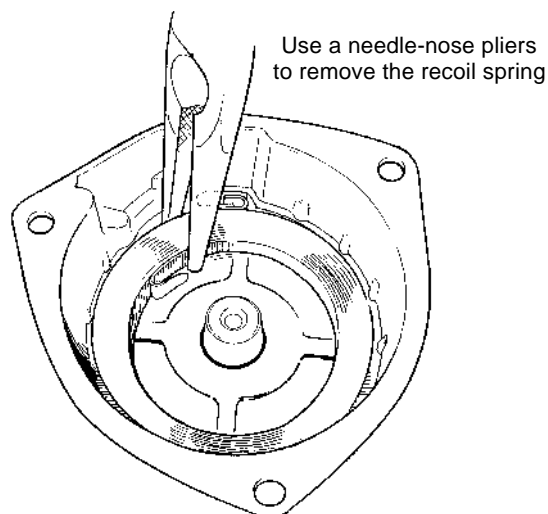

Figure 4.3 Removing the recoil spring
STEP 3. Remove the spring from the recoil housing or reel using a needle-nose pliers (Figure 4.3).